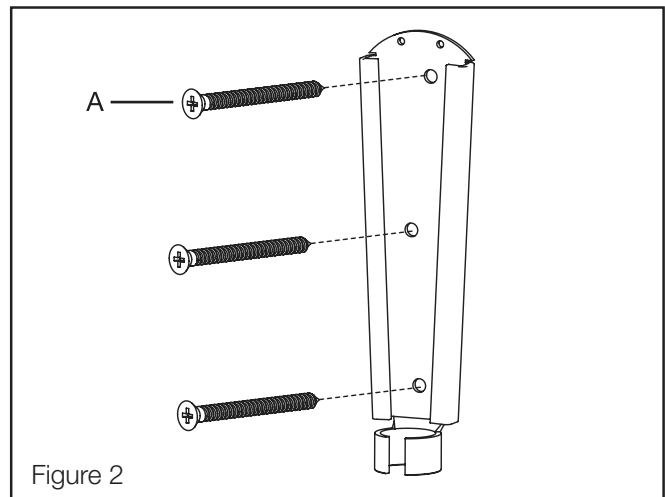

Figure 2
4. Attach the Wall Plate using the drywall screws (A) provided (see Figure 2). Do not over tighten.